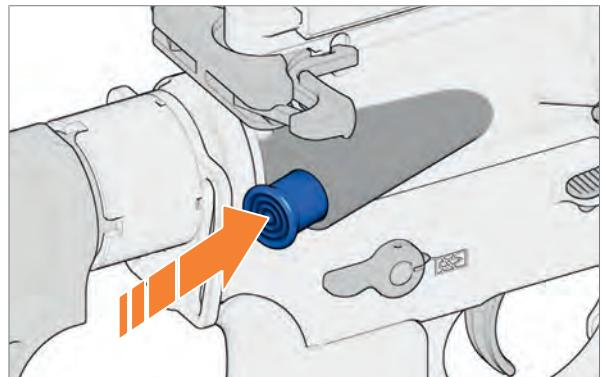

Fig. 23: Use forward assist
- Press forward assist until the bolt group is locked (Fig. 23).